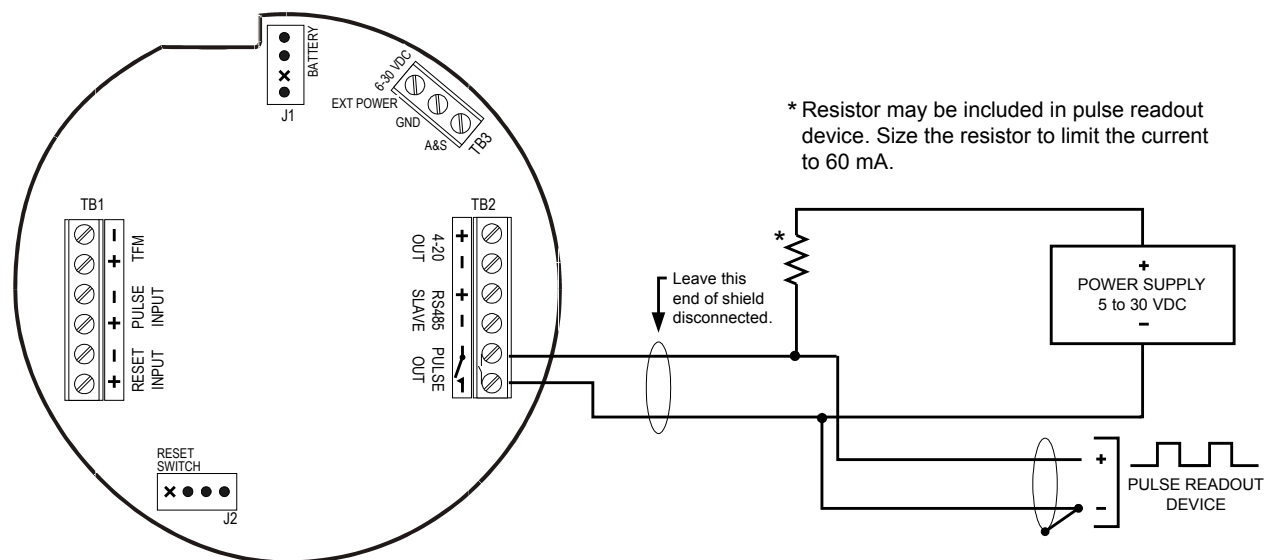

Figure 2.13—Pulse output wiring
8. Connect wiring for output signals, if appropriate. See Figure 2.13, page 30, through Figure 2.17, page 33.
The pulse output is a solid-state relay. Each pulse represents a user-defined volume. Because the circuit is isolated, it can be used in conjunction with any other feature on the MC-III EXP. A two-conductor cable from the MC-III EXP to the remote location is required (Figure 2.13). The maximum current rating of the pulse output circuit is 60 mA at 30 VDC.